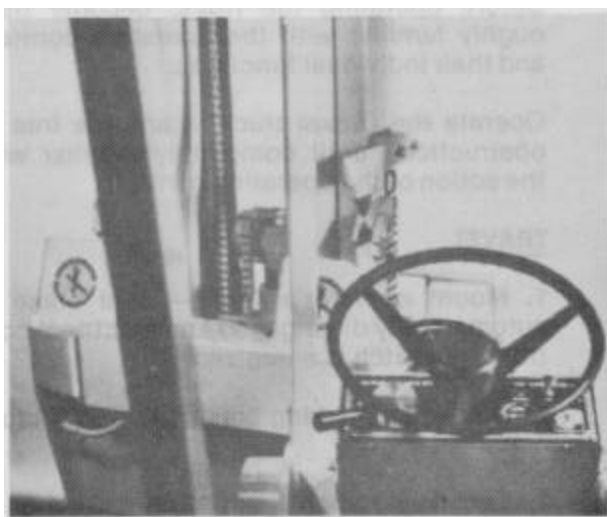

Figure 1-6.
5. With the empty mast now shifted fully to the left side of the vehicle, pivot the mast counterclockwise. Mast pivot will stop when the pivot angle reaches 15 degrees, plus or minus 2 degrees (Figure 1-6).